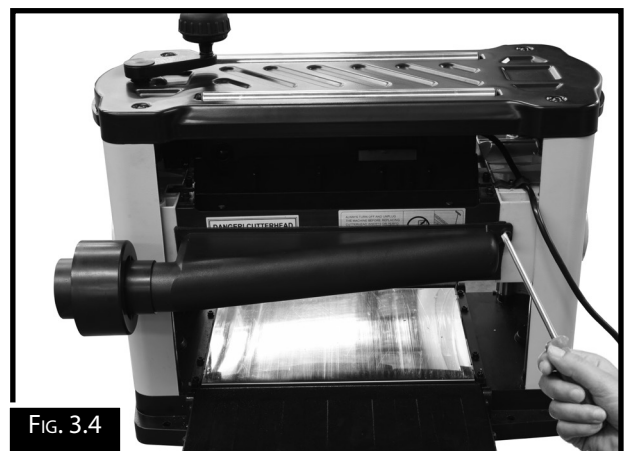

FIG. 3.4
1. Install the dust port to the rear of the thicknesser and attach using the 2 socket head cap screws supplied with the machine. (Fig. 3.4)